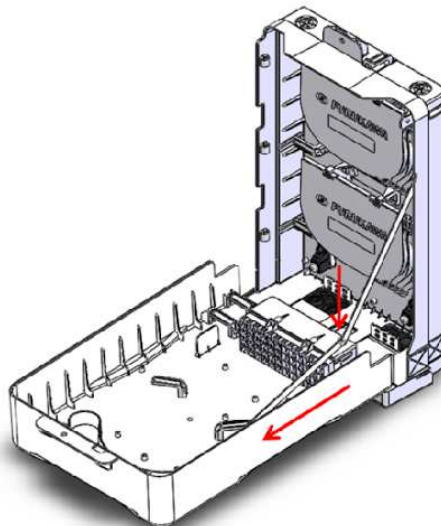

Figure 4
1.1.2 Push the plastic insert and remove the adapter plate (Fig.4);